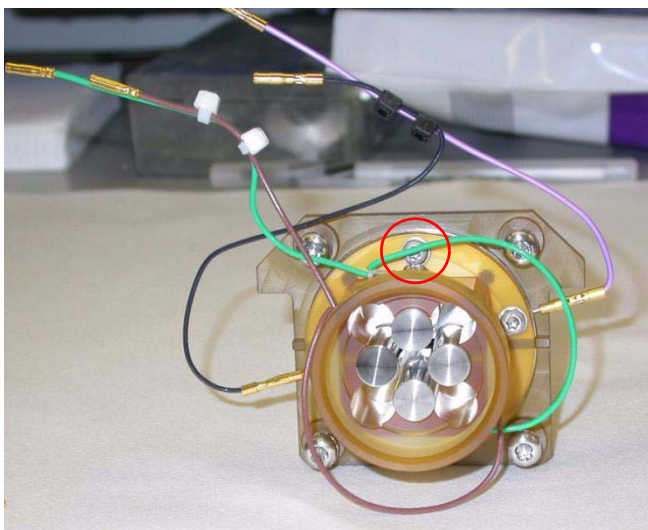

Figure 73 Note that the red slicer voltage current wire is removed from the circled screw.
Figure 73 shows the red slicer voltage current wire removed.
- 13** Gently push each P-filter rod against its reference “stop” when any P-filter Rod screw has been loosened for any reason. See Figure 73.